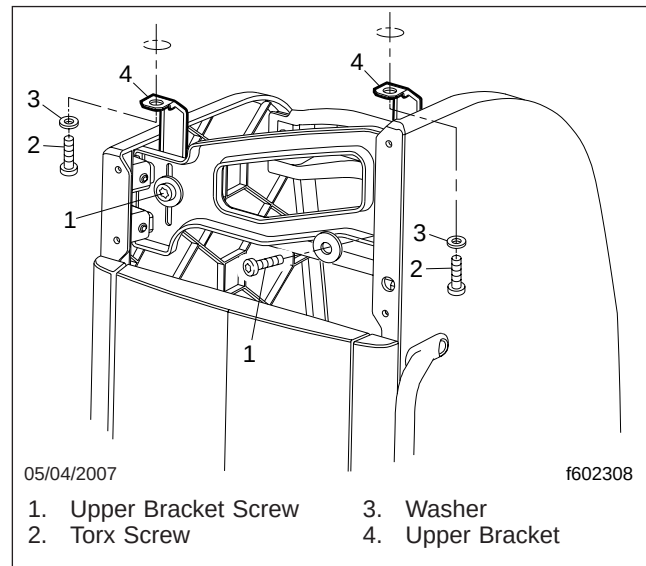

Fig. 4, Upper Cabinet Fasteners
13. Remove the two Torx screws and washers that attach the brackets at the top of the cabinet to the sleeper roof; see Fig. 4.